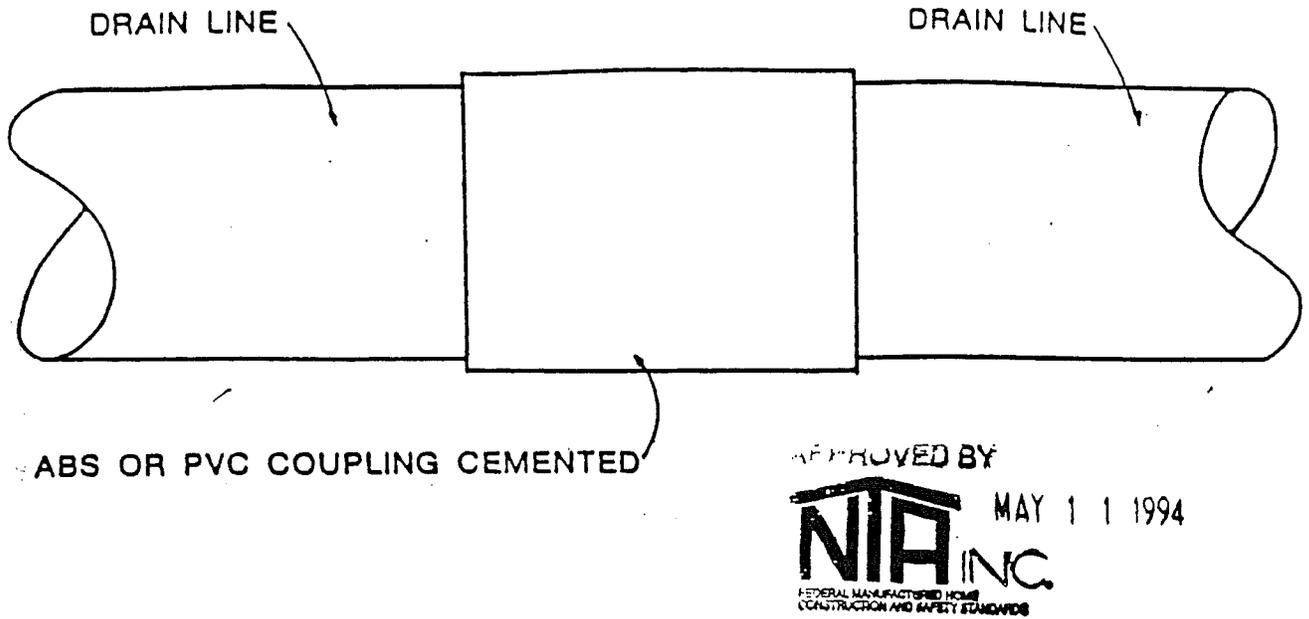

Figure 8.9 — DRAIN CONNECTOR (TYPICAL)
- 8.3.4 Solvent welding procedures.** The solvent cement used to connect drain lines must be compatible with the pipe installed in the home. Follow the manufacturer's instructions on the container. (See Figure 8.9.)